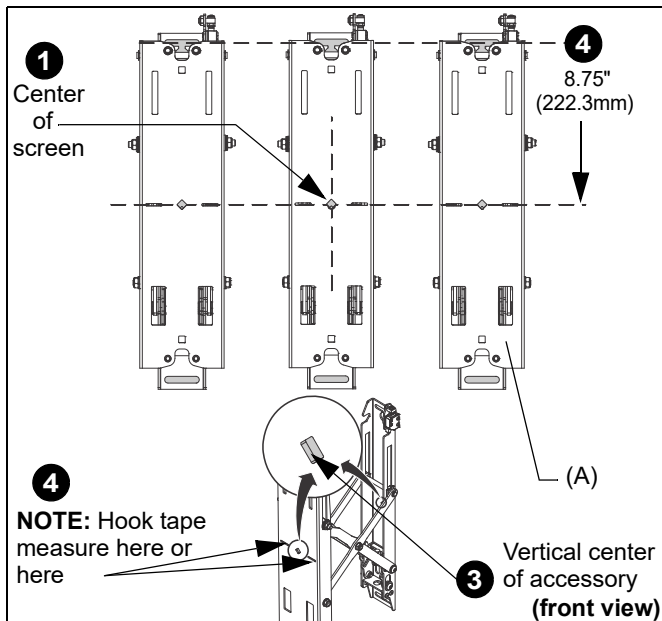

Figure 1
3. Line up the diamond cutouts on Fusion pullout (A) with center of screen marking to determine vertical center. (See Figure 1)
2. Line up the notches on Fusion pullout (A) with center of screen marking to determine vertical center. (See Figure 1)
3. Measure up 8.75" (222.3) from the center point to mark location of the upper mounting slots. (See Figure 1)